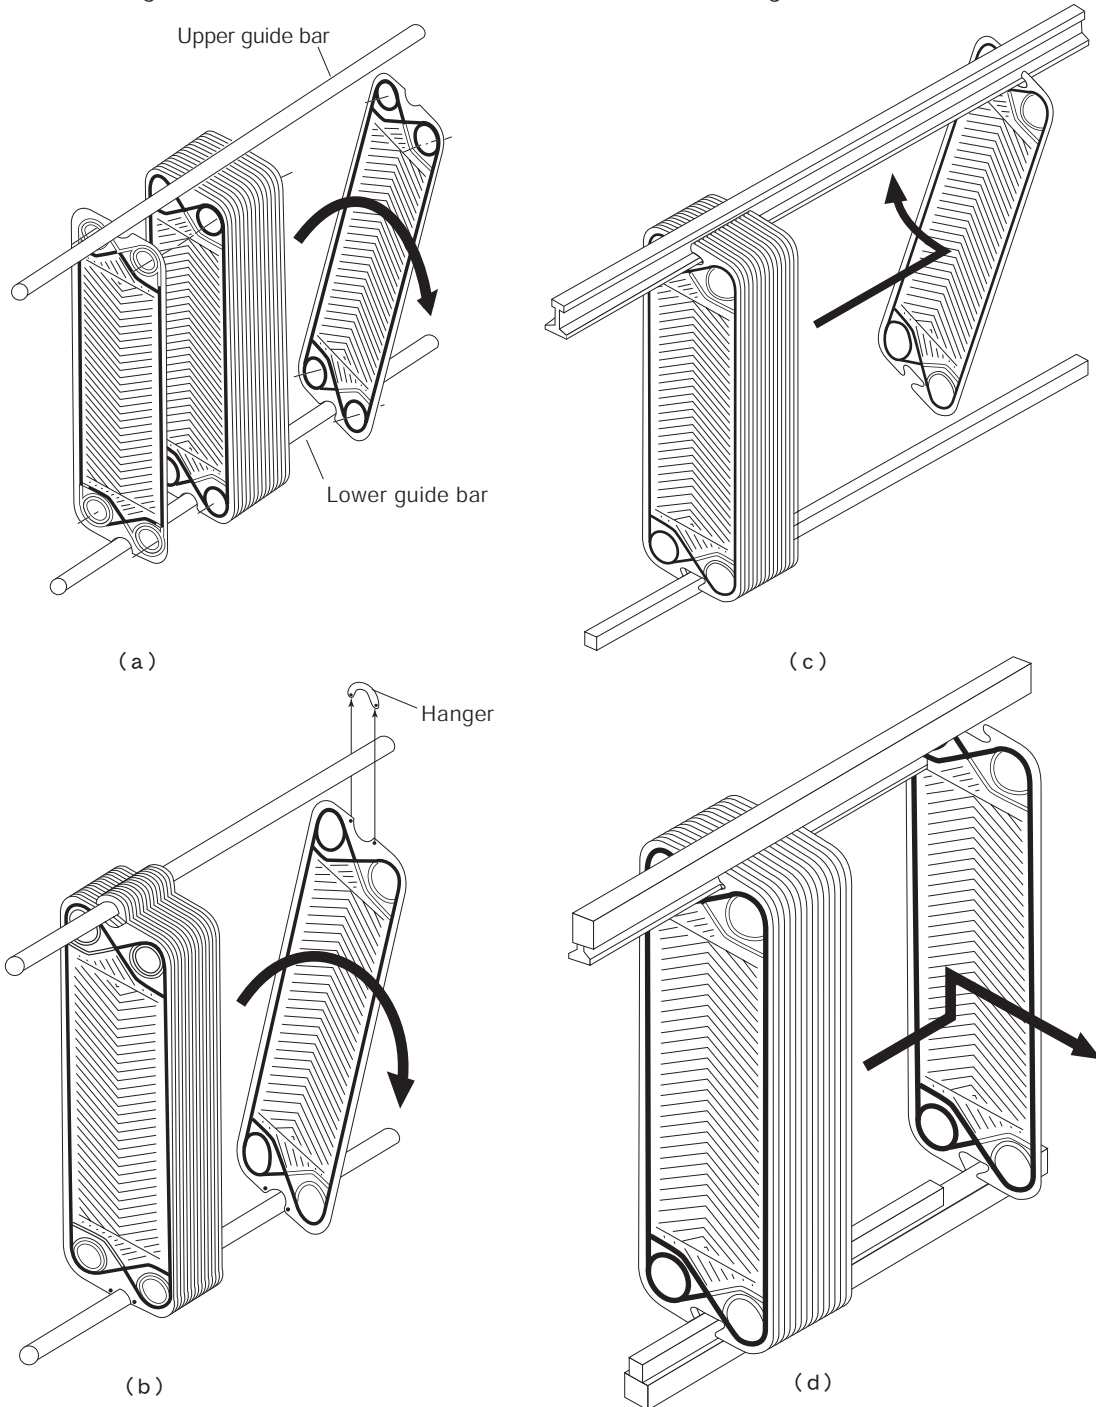

Fig.5.2 How to Remove the Plates
1. For the UX-01, UX-005 and RX-00 type with no hunger, turn aside the plates, one by one, toward the E-frame and take them out horizontally. (Fig.5.2-(a))
2. For the heat exchanger type with hanger and round upper guide bar, push down the hunger for removal while taking up the plate. Thereafter, remove the plate from the upper guide bar. (Fig.5.2-(b))
3. For the heat exchanger type with hanger and with rail type upper guide bar, remove each plate from the lower guide bar (rail) and, thereafter, turn it outward. (Fig.5.2(c)-(d))